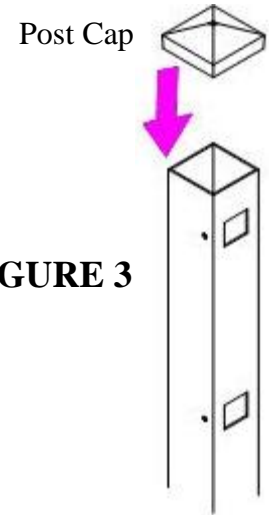

FIGURE 3
- 2.1. Use a rubber mallet to drive the post caps onto the posts. Be careful not to damage the post or caps. See Figure 3.